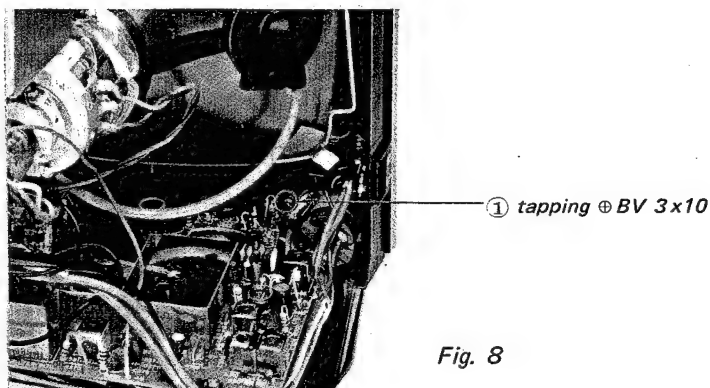

Fig. 8
4. Remove a screw (① in Fig. 8).